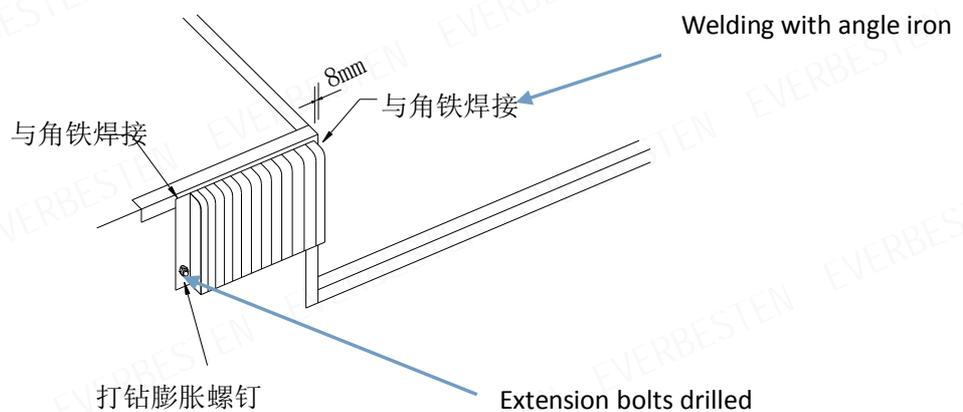

Figure-7
16. Expansion bolts (14-16mm) drilled at the bottom position of the bumper. (Figure-7)